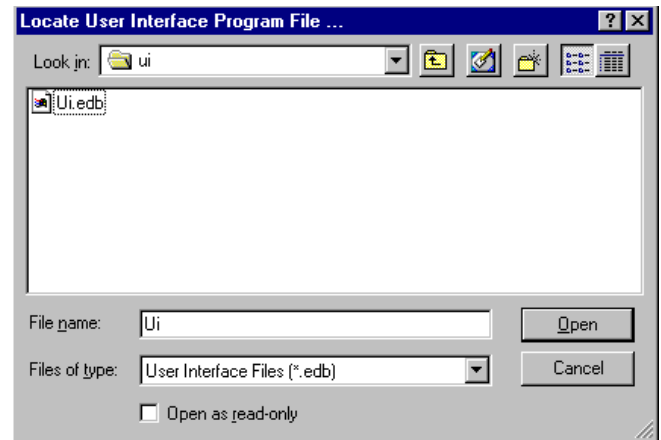

Fig. 13.50
2. The Locate User Interface Program File dialog box appears, displaying the default directory. See Fig. 13.50. Locate the Program file in this directory or the location/disk where the file is stored. Double-click on the file or select it and press the Open button.